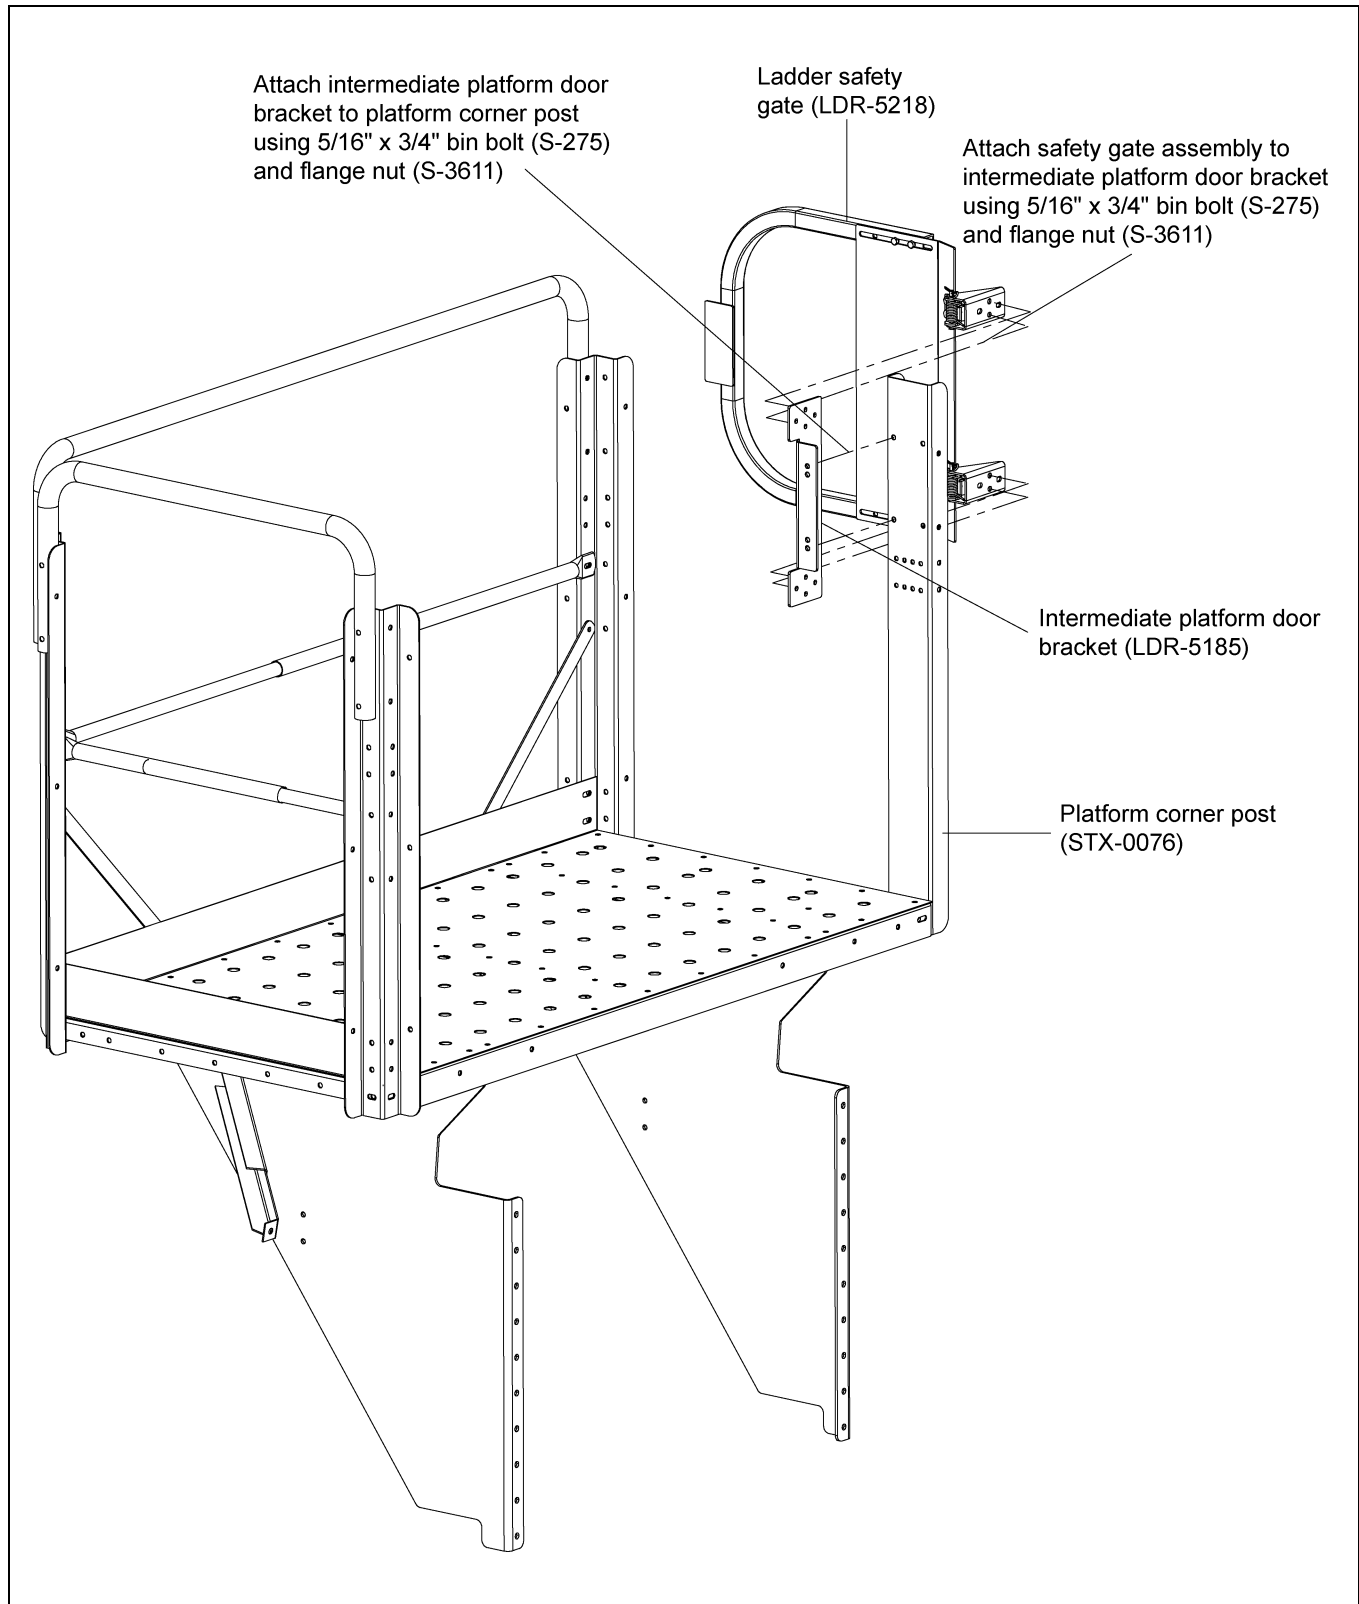

Figure 4E
6. Attach the platform gate bracket to the gate before attaching it to the inside platform post using 5/16" hardware. (See Figure 4E.)